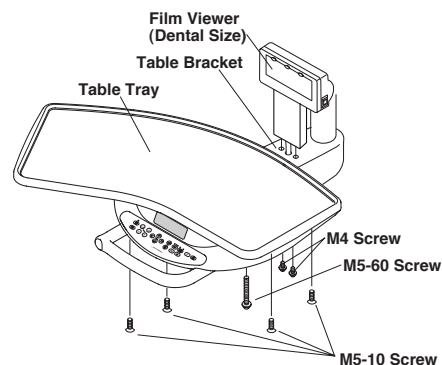

Fig.5-20 Fixing Film Viewer and Table Tray
(Fig.5-20)
Fix the table tray on the table with 4 x M5-10 screws and 1 x M5-60 screw. (Fig.5-20)
(1) Removing Doctor Table Top (Fig.5-20)